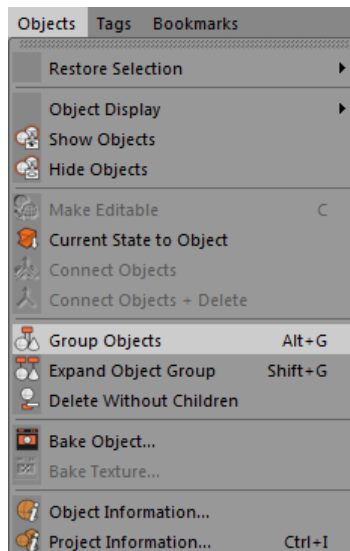

Figure 2-24 Choosing **Group Objects** from the **Objects** menu
13. In the Object Manager, select *Boole*, *Extrude*, and *Loft* by using the CTRL key. Next, choose **Group Objects** from the **Objects** menu in the Object Manager, refer to Figure 2-24; all selected objects are grouped and *Null* is added to the Object Manager. Rename *Null* as **Door Lock** by double-clicking its label in the Object Manager.